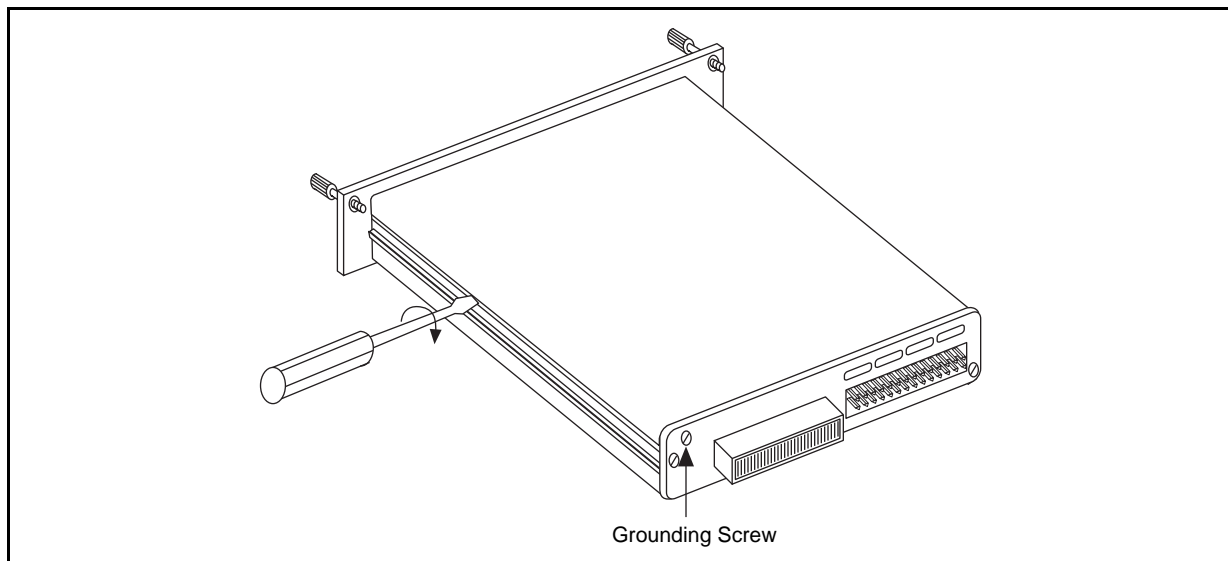

Figure 1. Removing the SCXI Module Cover
4. Unscrew the SCXI module grounding screw with a No. 1 Phillips-head screwdriver and remove the module cover (see Figure 1).